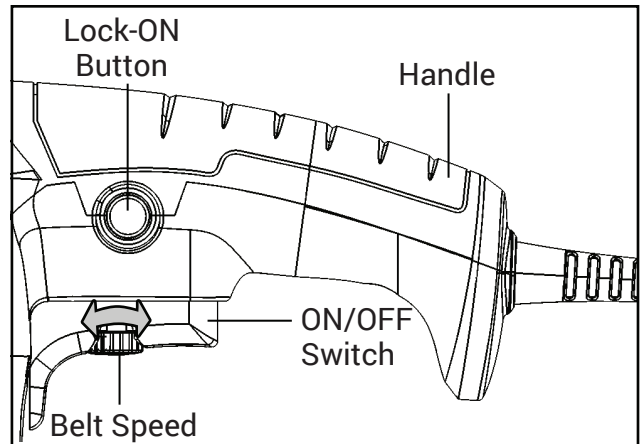

Fig. 5
(See Figure 5 for these features)
2. Press ON/OFF switch and allow the motor to reach full speed. For continuous operation, press in the power lock-on button (Fig. 5) located on the side of the handle. (See above section "Power Lock-On")
**CAUTION:** If the sander makes an unfamiliar sound or vibrates excessively, switch it off immediately and disconnect from the power supply. Check your tool for any damages or misalignments. Contact our customer service at (800) 232-1195, M-F 8-5 CST or email [techsupport@wenproducts.com](mailto:techsupport@wenproducts.com) for assistance.